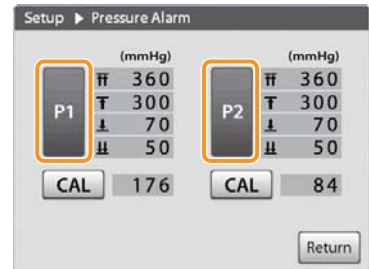

Figure 3-8
2. Tap the channel (P1 or P2) you want to set. (Figure 3-8)